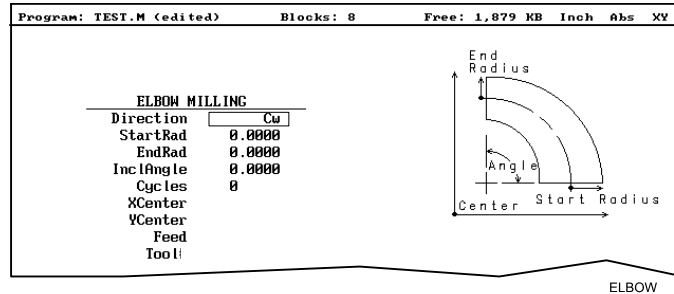

Figure 4-51, ELBOW MILLING Graphic Menu
2. Highlight **Elbow Milling** and press **ENTER** to display the **ELBOW MILLING** Graphic Menu. Refer to **Figure 4-51**.